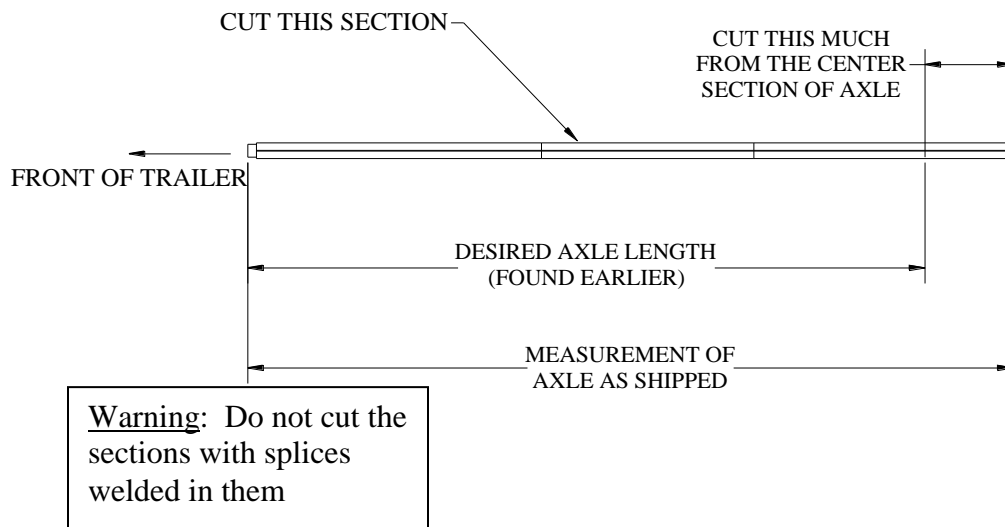

Figure 10
3. Measure from the front of the axle, which has the short splice sticking out, to the back of the bungee cap. Subtract the desired axle length, calculated earlier, from the measurement just taken. That is how much you need to cut from the **center section** of the axle. Refer to fig. 10.